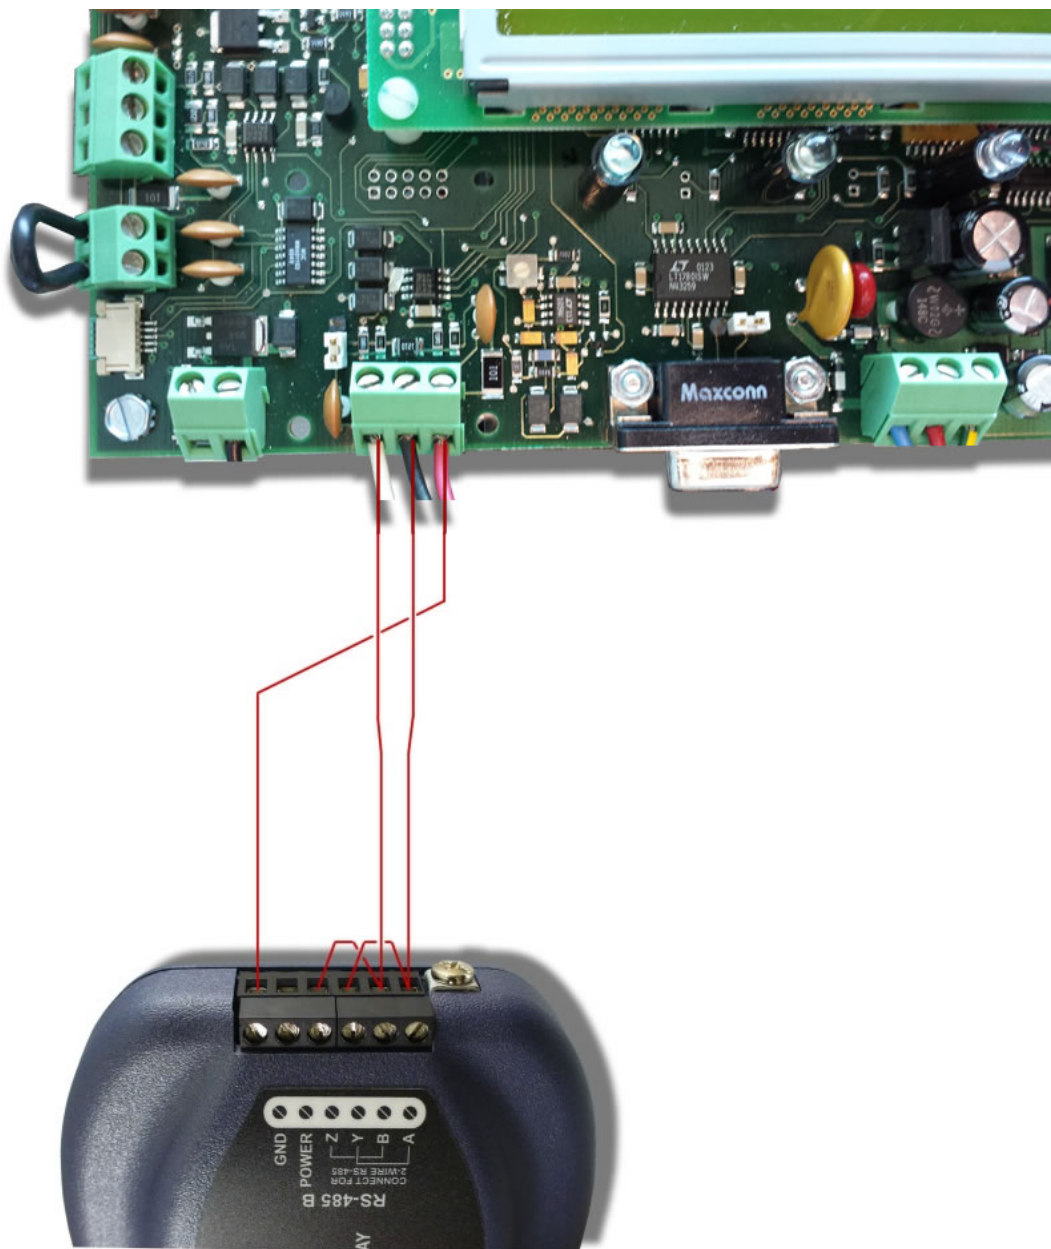

Figure 2: Gateway and Chillgard LC Connections
A 7 – 24V DC power supply must be connected to the gateway's terminal block at terminals TB:5 (POWER) and TB:6 (GND) as highlighted in Figure 2.
Connect the “RS-485 To Sensor Module” terminals -, +, and G on the Chillgard LC to the gateway’s terminal block at terminals TB:2 (B), TB:1 (A), and TB:6 (GND) as shown in Figure 2. This terminal block on the Chillgard LC will have wires for both the gateway and any sensors connected to it. Additionally, a jumper wire must be placed on the gateway’s terminal block between terminals TB:1 (A) and TB:3 (Y). Another jumper wire must be placed between terminals TB:2 (B) and TB:4 (Z). as shown in Figure 2.
- a. Confirm the wiring matches the connections shown in Figure 2.